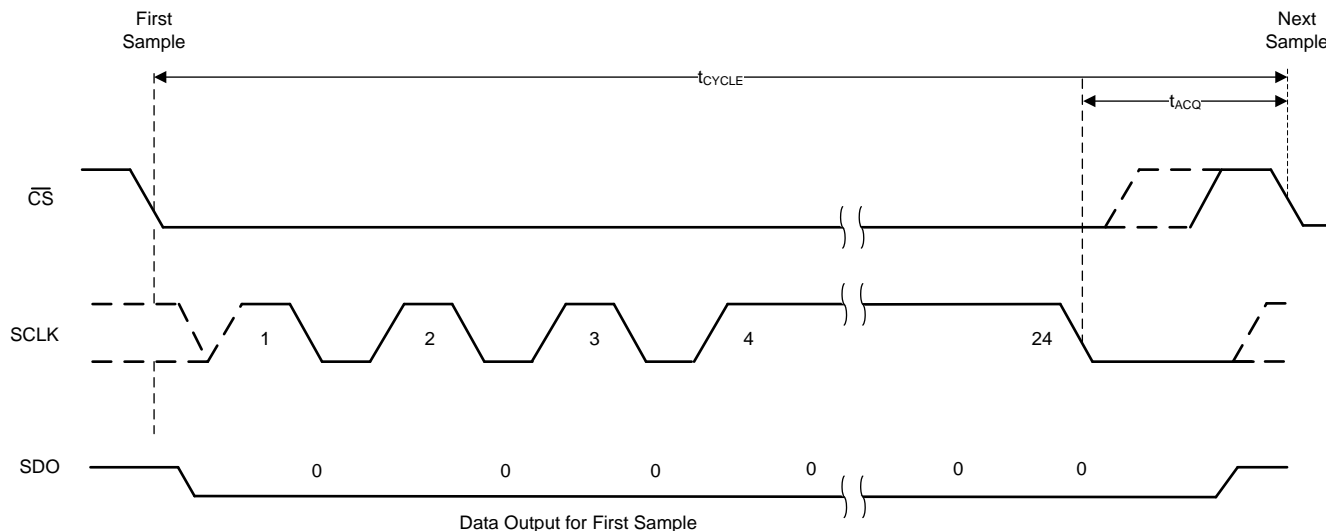
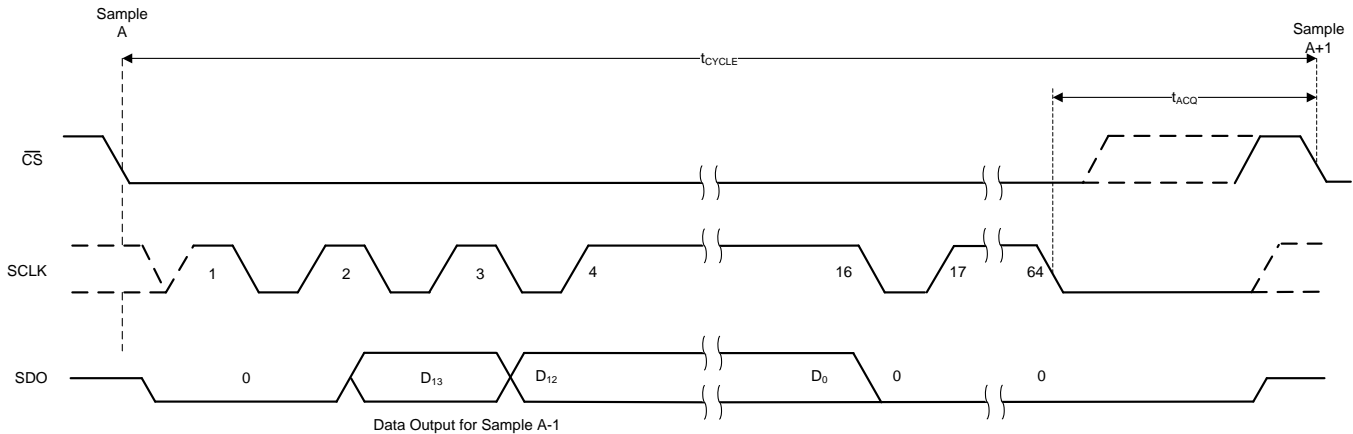

Figure 41. Timing for Offset Calibration on Power-Up
Figure 42. Timing for Offset Calibration During Normal Operation
The host controller must provide a serial transfer frame as described in Figure 41 or in Figure 42 to enter OFFCAL state.
On power-up, the host must provide 24 SCLKs in the first serial transfer to enter the OFFCAL state. The device provides 0's on SDO during offset calibration. For acquisition of the next sample, a minimum time of t_{ACQ} must be provided. If the host controller enters the OFFCAL state, but pulls the CS pin high before providing 24 SCLKs, then the offset calibration process is aborted and the device enters the ACQ state. Figure 41 and Table 2 provide the timing for offset calibration on power-up.
(1) In addition to the timing specifications of Figure 41 and Table 2, the timing specifications described in Figure 2 and the Timing Requirements table are also applicable for offset calibration on power-up.
During normal operation, the host must provide 64 SCLKs in the serial transfer frame to enter the OFFCAL state. The device provides the conversion result for the previous sample during the first 18 SCLKs and 0's on SDO for the rest of the SCLKs in the serial transfer frame. For acquisition of the next sample, a minimum time of t_{ACQ} must be provided. If the host controller enters the OFFCAL state, but pulls the \overline{CS} high before providing 64 SCLKs, then the offset calibration process is aborted and the device enters ACQ state. Figure 42 and Table 3 provide the timing for offset calibration during normal operation.
(1) In addition to the timing specifications of Figure 42 and Table 3, the timing specifications described in Figure 2 and the Timing Requirements table are also applicable for offset calibration during normal operation.